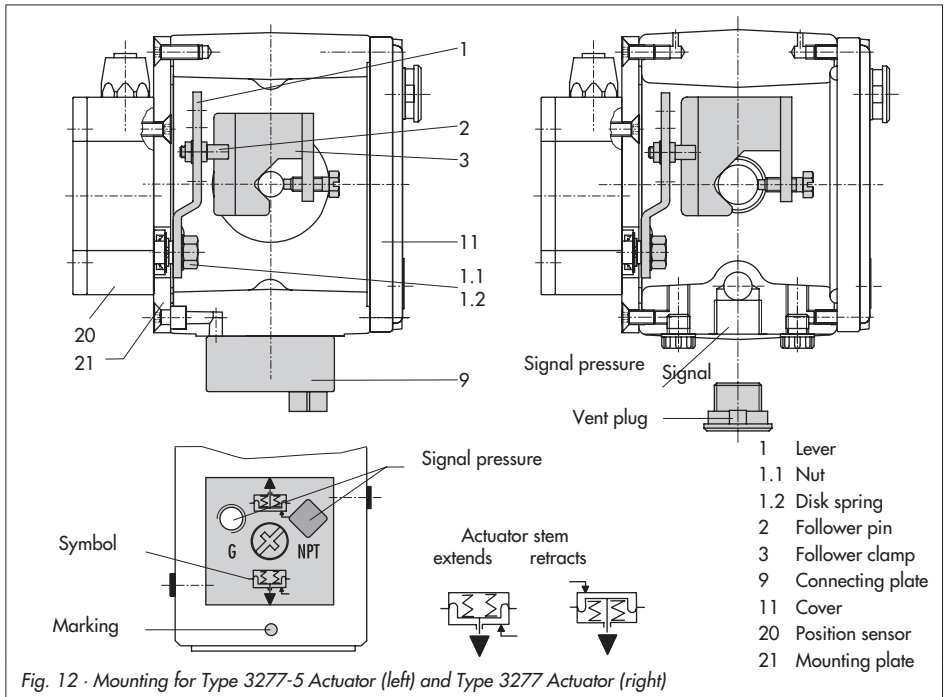

Fig. 12 · Mounting for Type 3277-5 Actuator (left) and Type 3277 Actuator (right)
The signal pressure from the positioner is routed over the signal pressure connection of the connecting plate (9, Fig. 12 left) to the actuator diaphragm chamber. To proceed, first screw the connecting plate (9) included in the accessories onto the actuator yoke.
- ▶ Turn the connecting plate (9) so that the correct symbol for the fail-safe position "Actuator stem extends" or "Actuator stem retracts" is aligned with the marking (Fig. 12, below).
- ▶ Make sure that the gasket for the connecting plate (9) is correctly inserted.
| Direct attachment                            | Mounting parts for actuators with 120 cm 2 see Fig. 12 left   |                                     | 1400-7472              |
| Direct attachment                            | Mounting parts for actuators with 240, 350 and 700 cm 2 , see Fig. 12 right   |                                     | 1400-7471              |